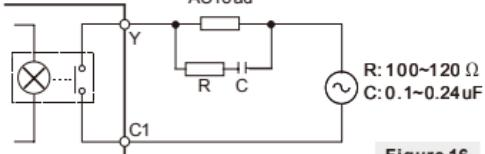

Figure 16
- (5) Incandescent lamp (resistive load)
- (6) AC power supply
- (7) Mutually exclusive output: For example, Y4 controls the clockwise rotation of a motor, and Y5 controls the counterclockwise rotation of the motor. The interlock circuit which is formed, and the program in the TP04P series text panel ensure that there are protective measures if an abnormal condition occurs.
- (8) Indicator: Neon lamp
- (9) Surge absorber: It can be used to reduce the noise produced by an AC load. (See figure 16.)